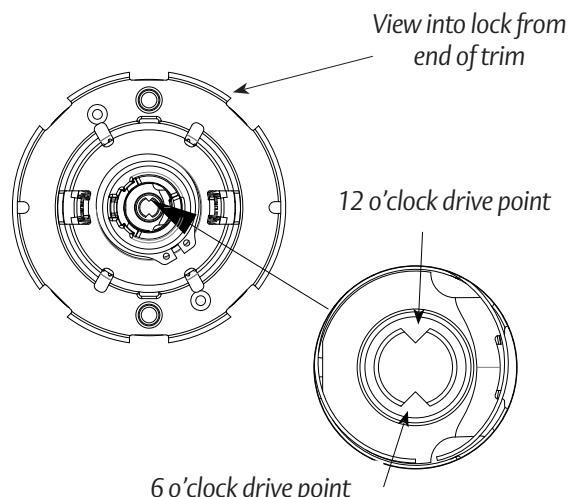

Figure 20
With driver points at 6 and 12 (See Figure 20 on Page 11.), rotate key 45° in either direction, and then slide the lever on over the lever catch. Confirm the lever will not pull off.
1. Remove cylinder lever to view internal cam. See Figure 20.
1. Remove cylinder levers to view internal cam. See Figure 20.